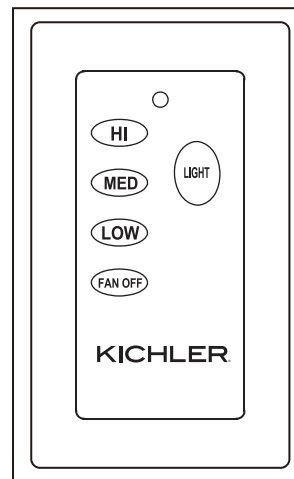

Fig. 21
- Light Button = the "LIGHT" button turns the light ON or OFF and also controls the brightness setting. (Fig. 21)